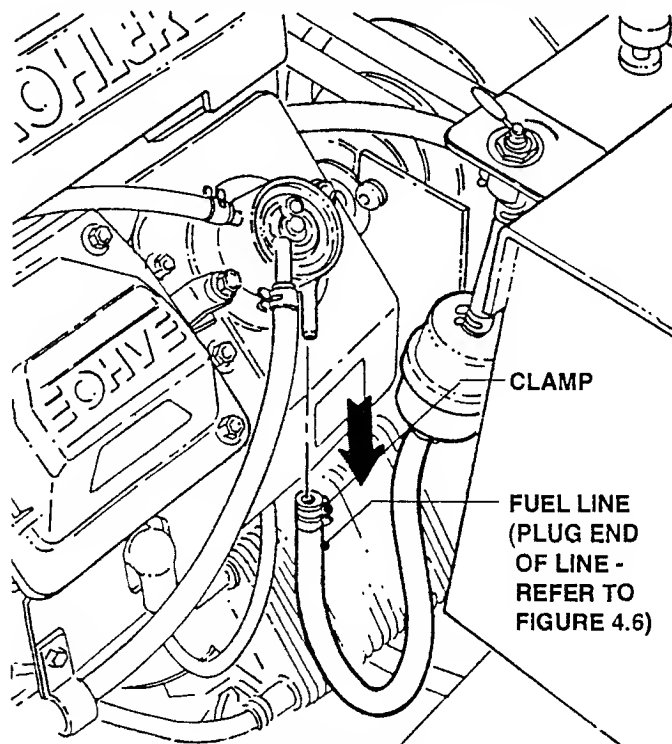

FIGURE 4.5
- F. Squeeze fuel line clamp and remove fuel line from engine. Plug open end of line. See Figure 4.5.